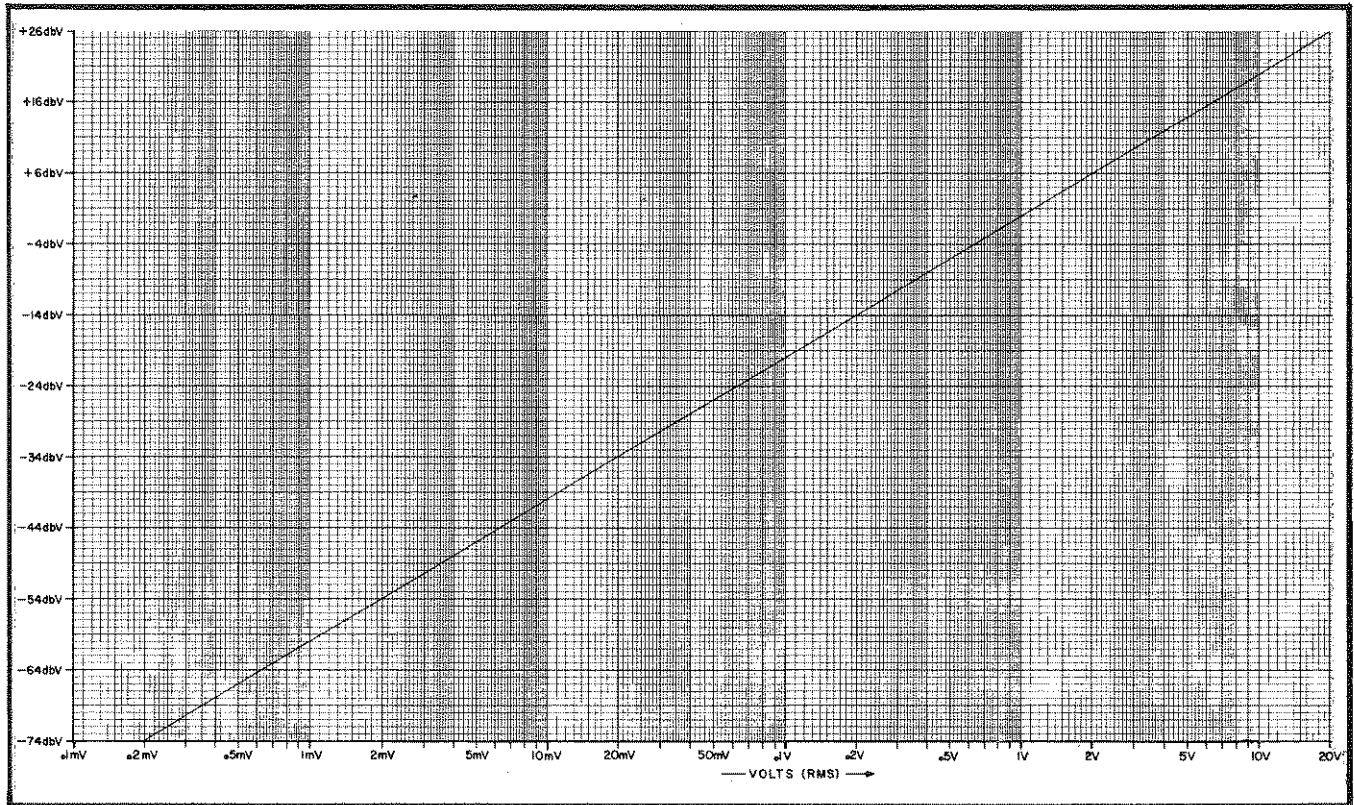

Figure 3-6. dBV to Volts Conversion.
3-44. Log A and Log B Measurements. The single channel amplitude functions, A or B, permit direct measurement of either input level in dBV. These readings can be converted to ac volts using the graph shown in Figure 3-6. To measure the level applied to either input channel, proceed as follows:
- If desired, convert the dBV reading to rms volts using the graph shown in Figure 3-6.